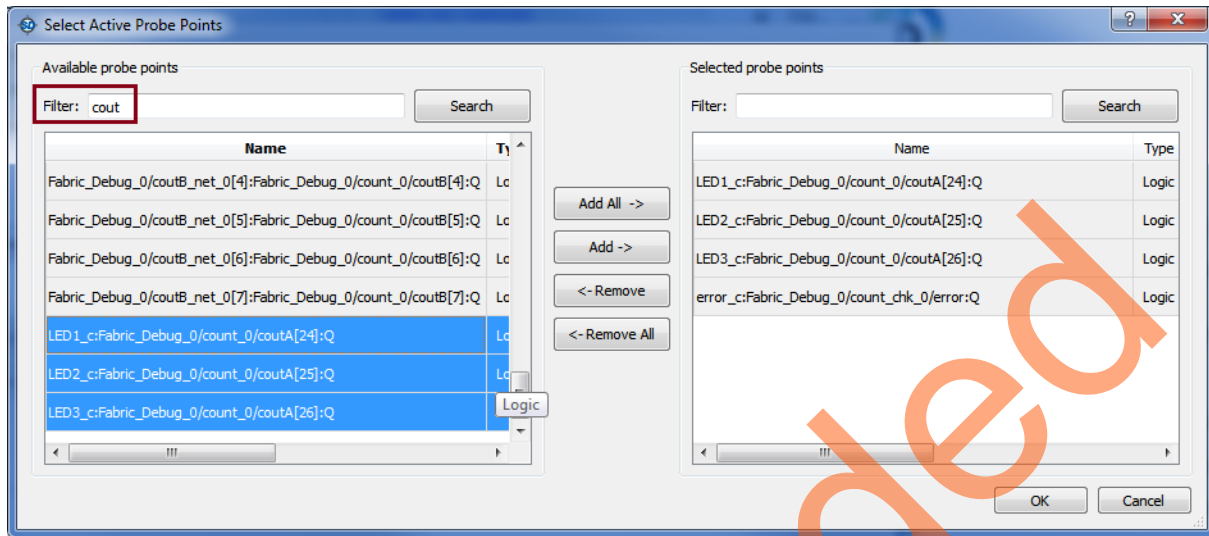

Figure 19 • Selecting Desired Points to Read
To find these points in the list of available probe points, use the Filter control, as shown in Figure 19 on page 17.
3. Select the desired points and click **Add** to move to the **Selected Probe Points** window and click **OK**, as shown in Figure 19.